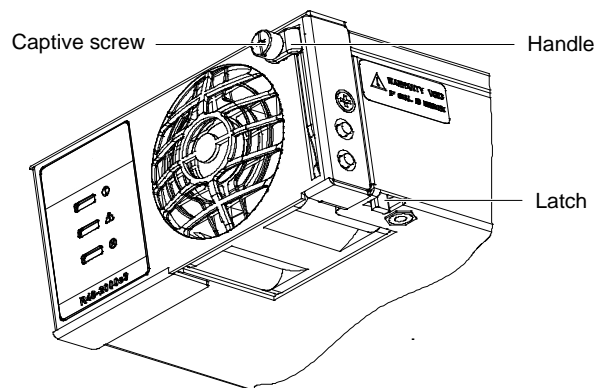

Figure 4-2 Installing a Rectifier
2. Loosen the captive fastener securing the top of the latch mechanism to the front of the Rectifier. Pull the top of the latch mechanism away from the Rectifier (this will retract the latch mechanism located on the underside of the Rectifier). Refer to Figure 4-2 for latch mechanism illustration.